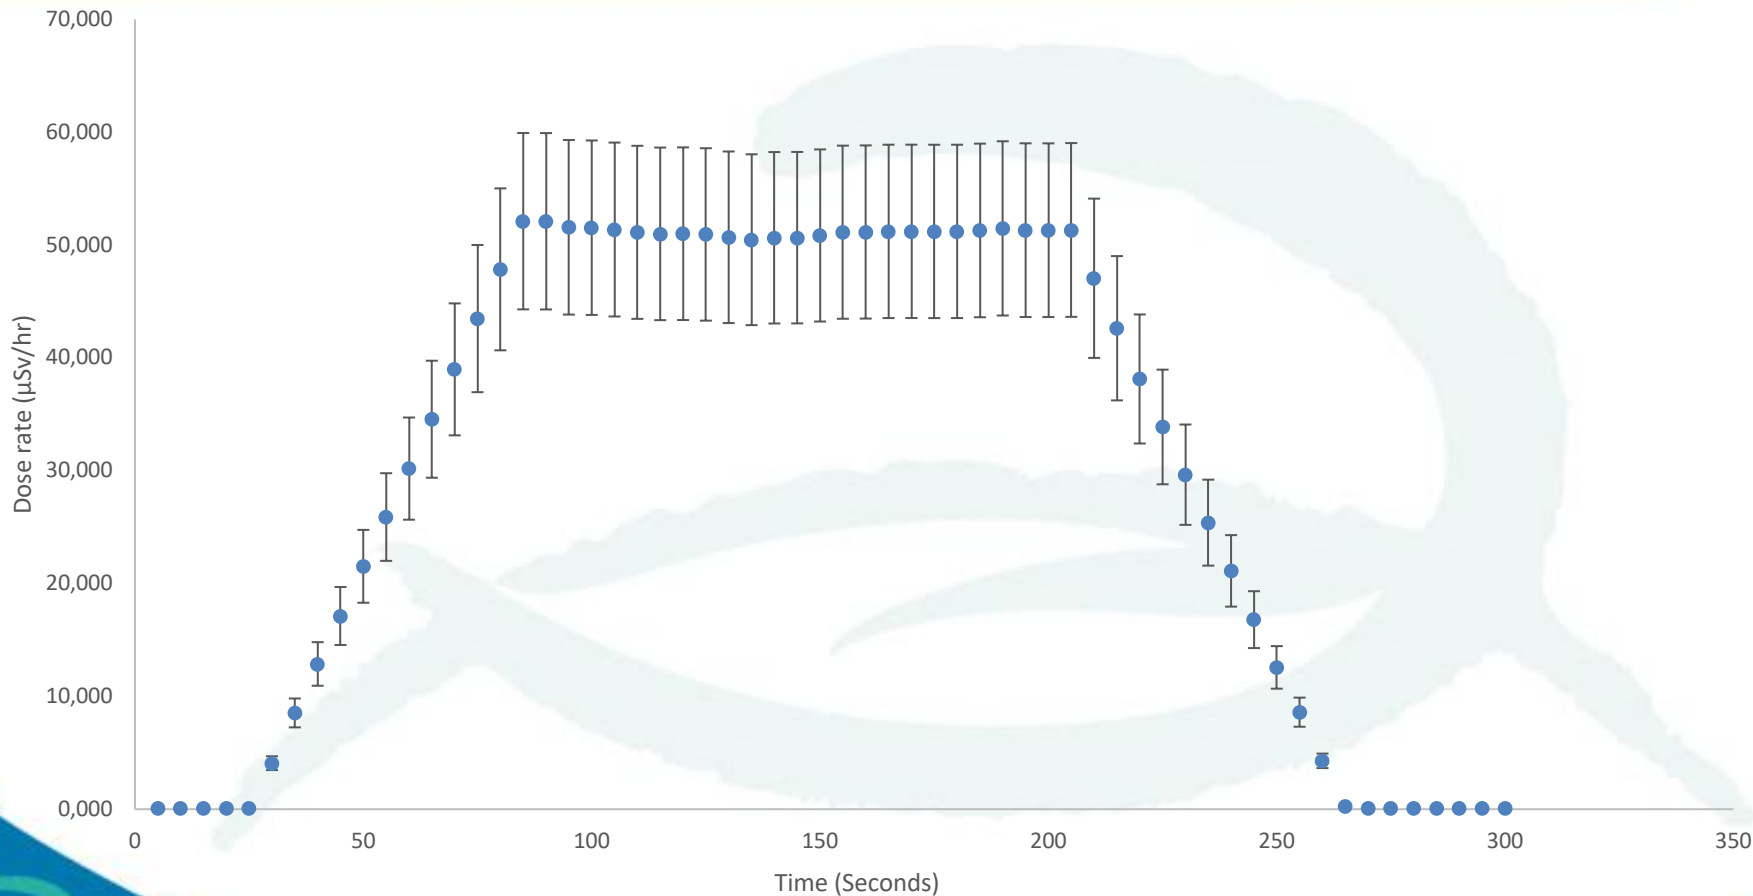

Figure 5: Shows the exposure time of the bGeigie Nano Monitor to the Cs-137 source at a dose rate of $50\mu\text{Sv/hr}$
- The results of this measurement can be seen in Figure 5.